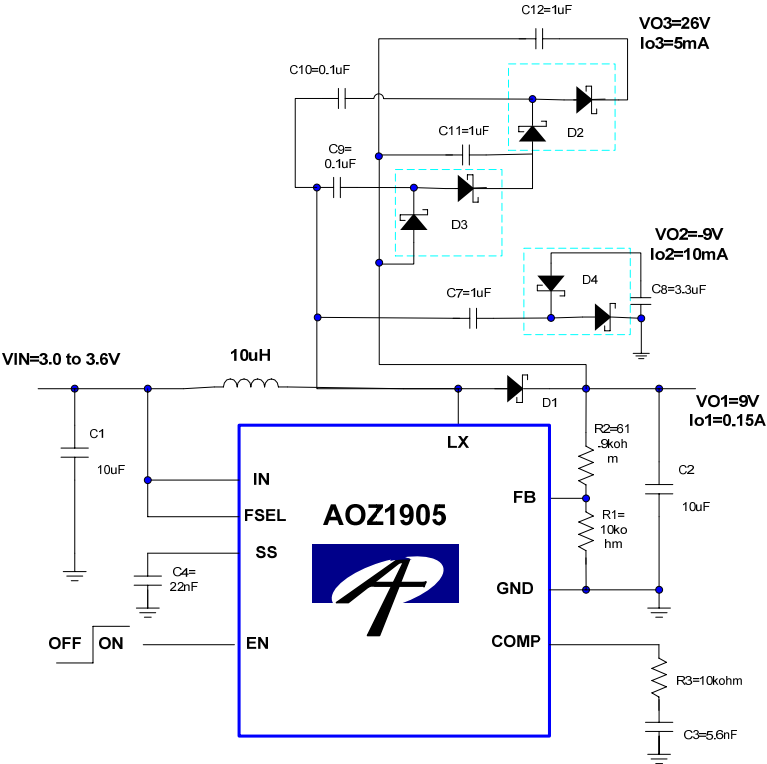

Figure 4: Multiple-output, low-profile TFT LCD power solution
LCD panel needs several voltage rails to power source driver IC and gate driver IC. These rails include positive 26V, 9V and negative -9V. AOZ1905 with a few external components can provide the complete power solution for LCD. The schematic is shown in Figure 4. Basically, it regulates the 9V output, and uses the switching node (LX) to charge-pump the output to negative 9V and positive 26V.